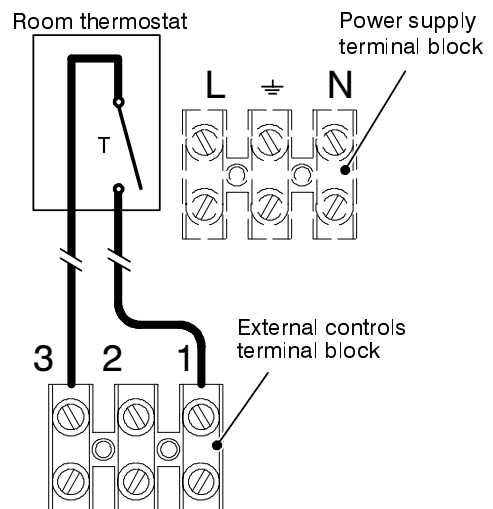

Fig. 6.16
- 8 Connect the room thermostat between terminals 1 and 3 as shown in Fig. 6.16.